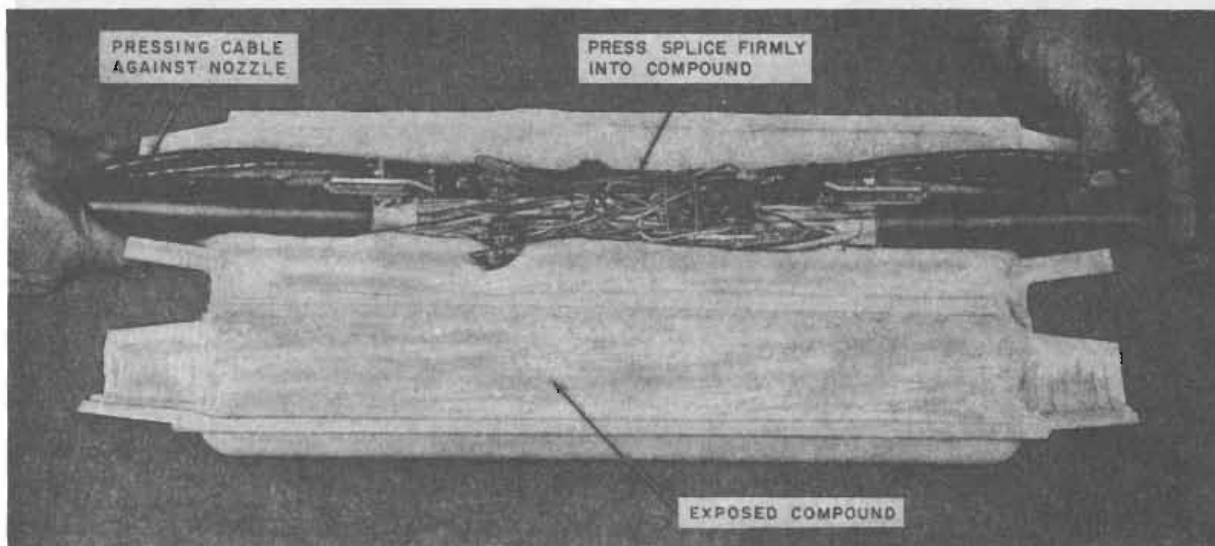

Fig. 42—Placing Cable in 13-Type Closure
13.06 Remove the separators and plastic liner from closure then place the completed splice in the closures as shown in Fig. 42 or Fig. 43 and enclose as outlined in Section 631-600-217.